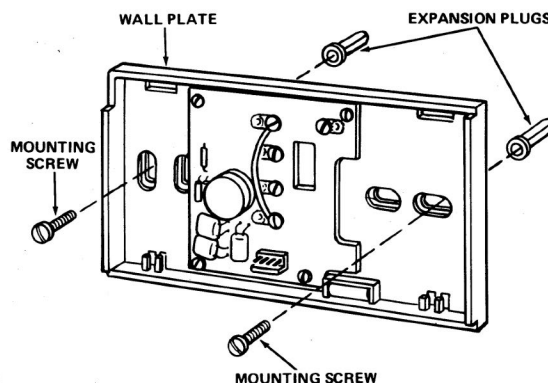

Fig. 4
STEP 6. Fasten wall plate loosely to wall in position shown in Fig. 4, using two mounting screws provided. Place level on top of wall plate, adjust until level, and then tighten screws to secure wall plate.